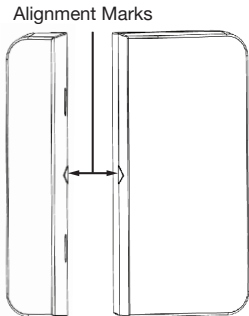

Figure 3
- When mounting the magnet, line up the arrow on the magnet with the middle line on one side of the sensor (see **Figure 3**). Mount the magnet no more than 0.4 in. (1 cm) away from the sensor. Secure the magnet with included screws or adhesive.